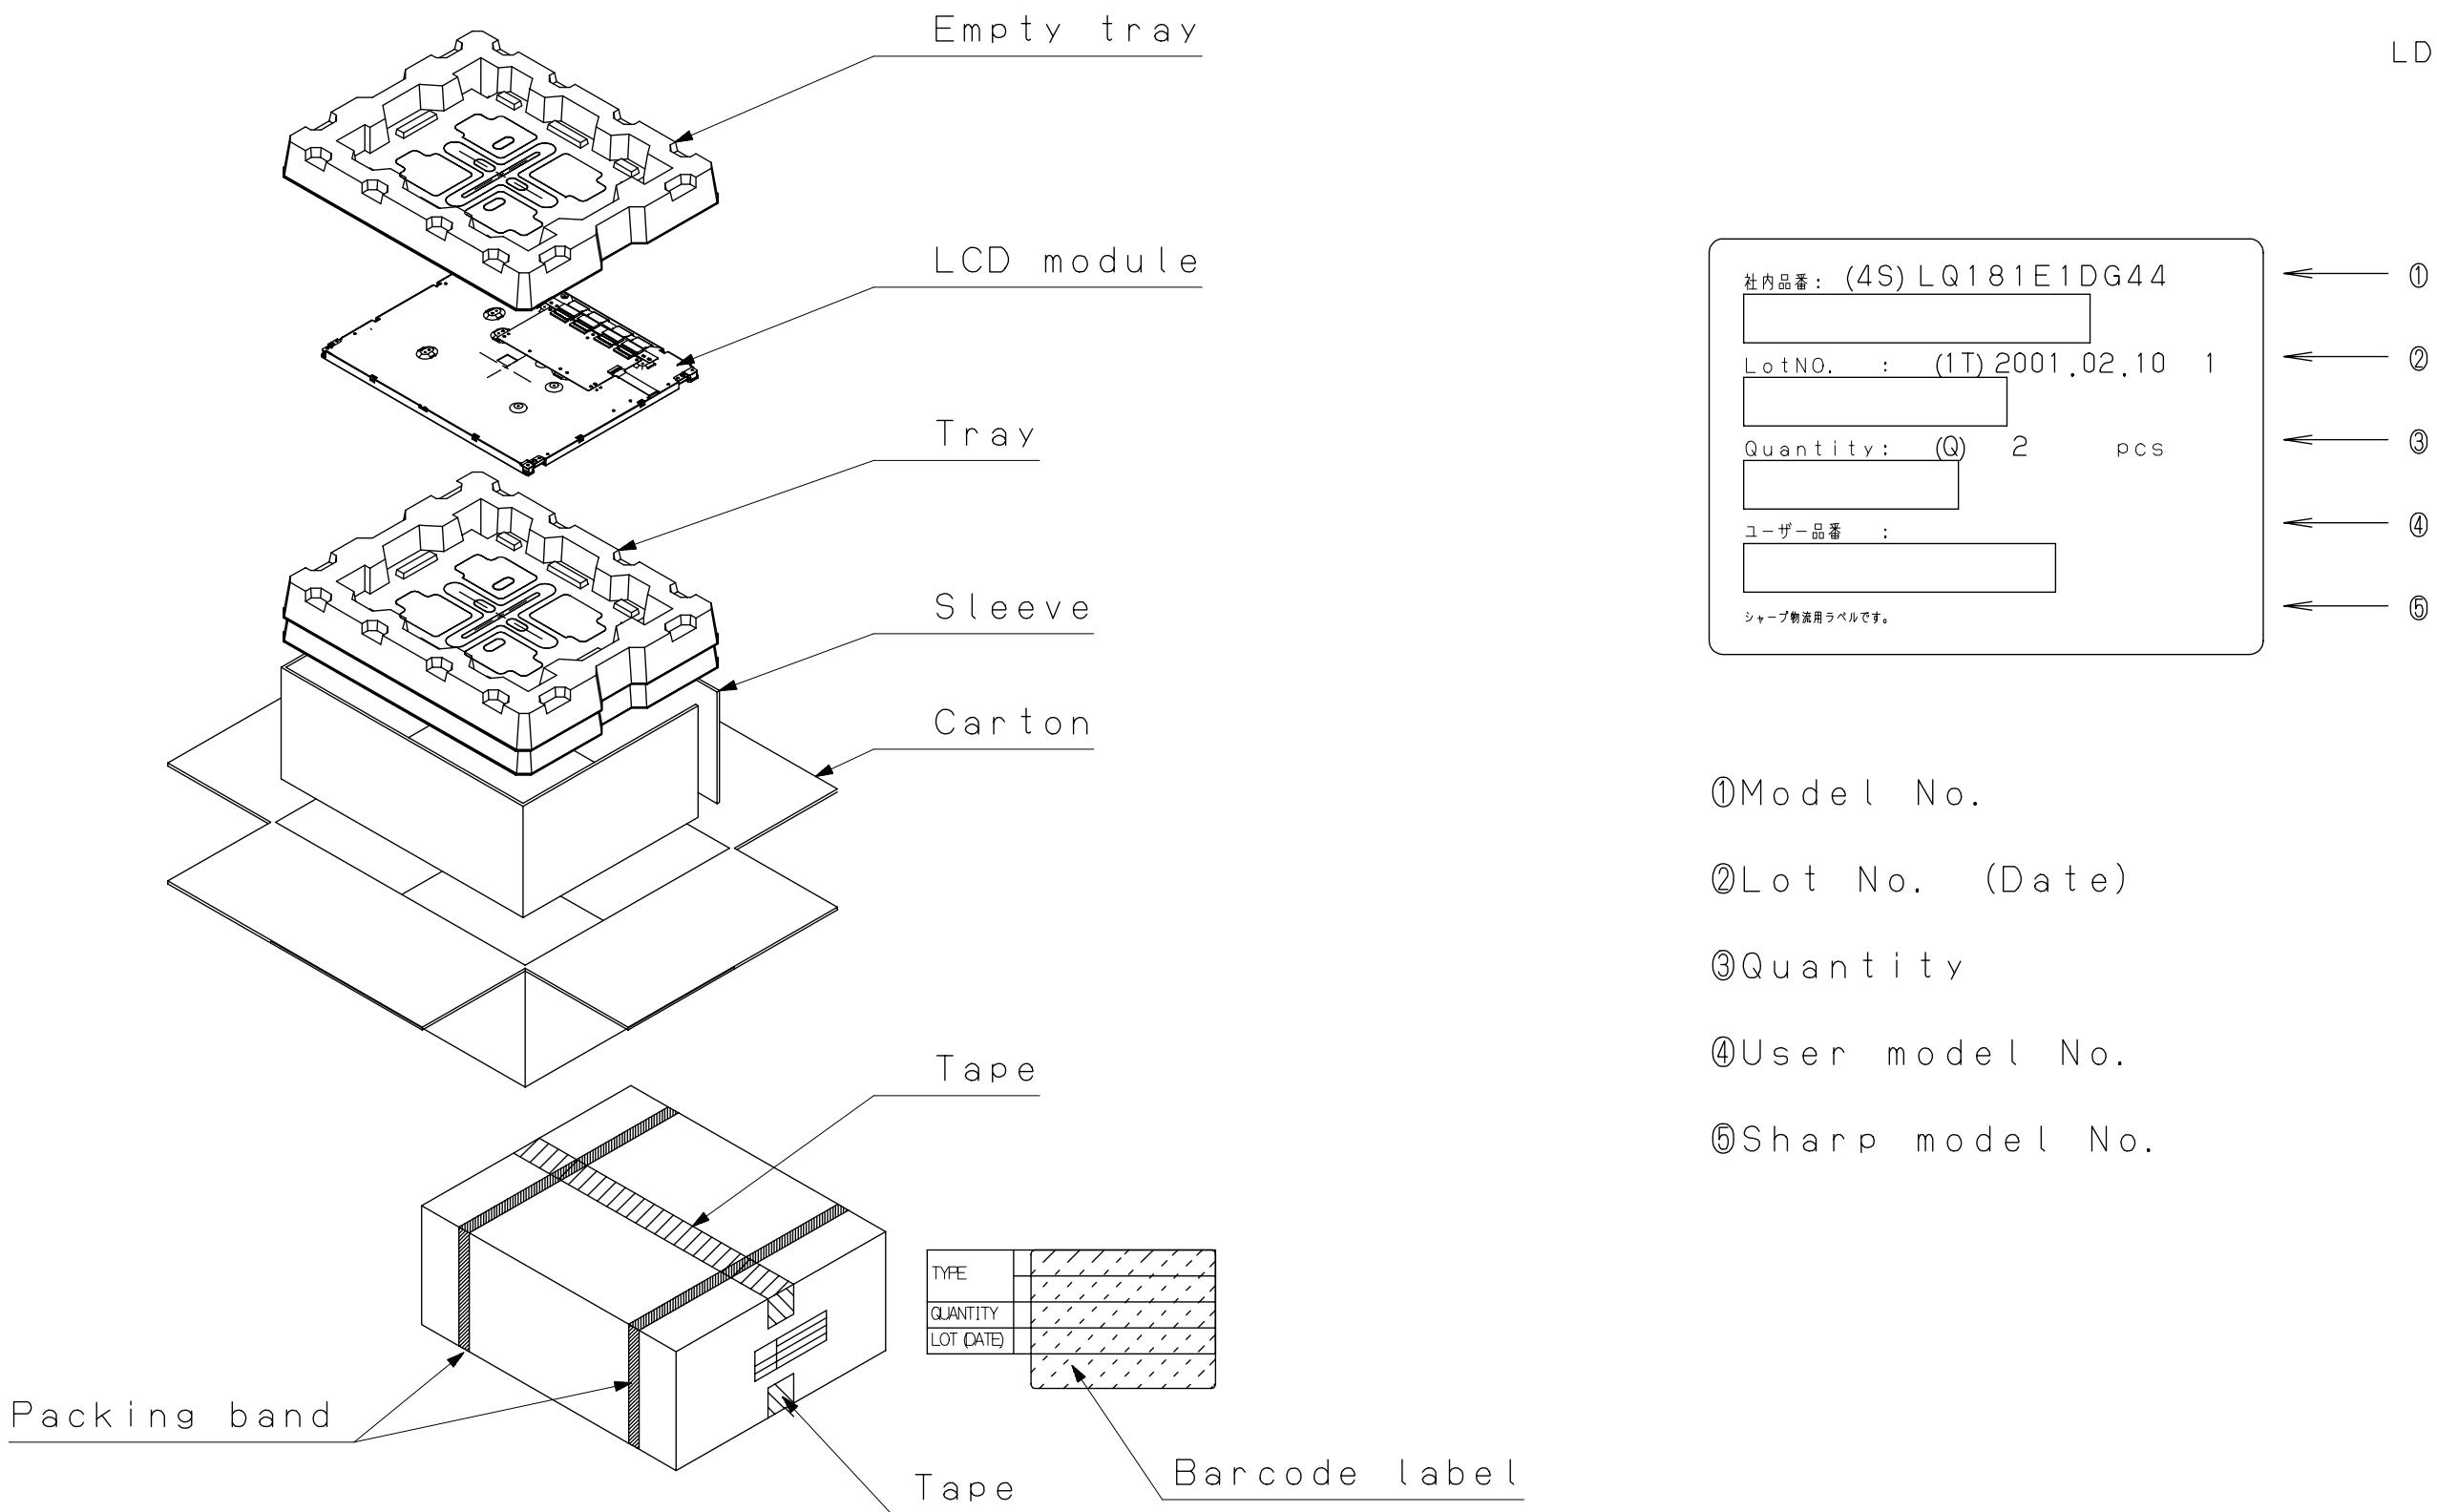

Fig. 2 PACKING FORM (LQ181E1DG44)
- c) Carton size[mm] : 563 (W)×483 (D)×136 (H)
- e) Packing form is shown in Fig .2